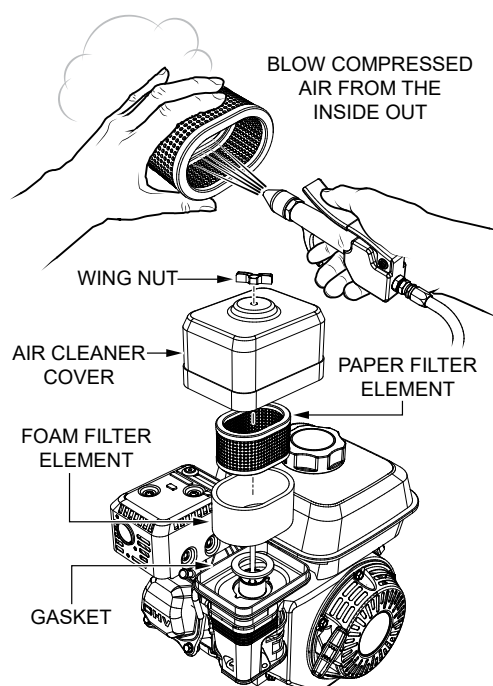

Figure 29. Engine Air Cleaner (Dual Element)
1. Remove the air cleaner cover and foam filter element as shown in Figure 29.
2. Tap the paper filter element (Figure 29) several times on a hard surface to remove dirt, or blow compressed air [not exceeding 30 psi (207 kPa, 2.1 kgf/cm²)] through the filter element from the air cleaner case side. **NEVER** brush off dirt. Brushing will force dirt into the fibers. Replace the paper filter element if it is excessively dirty.